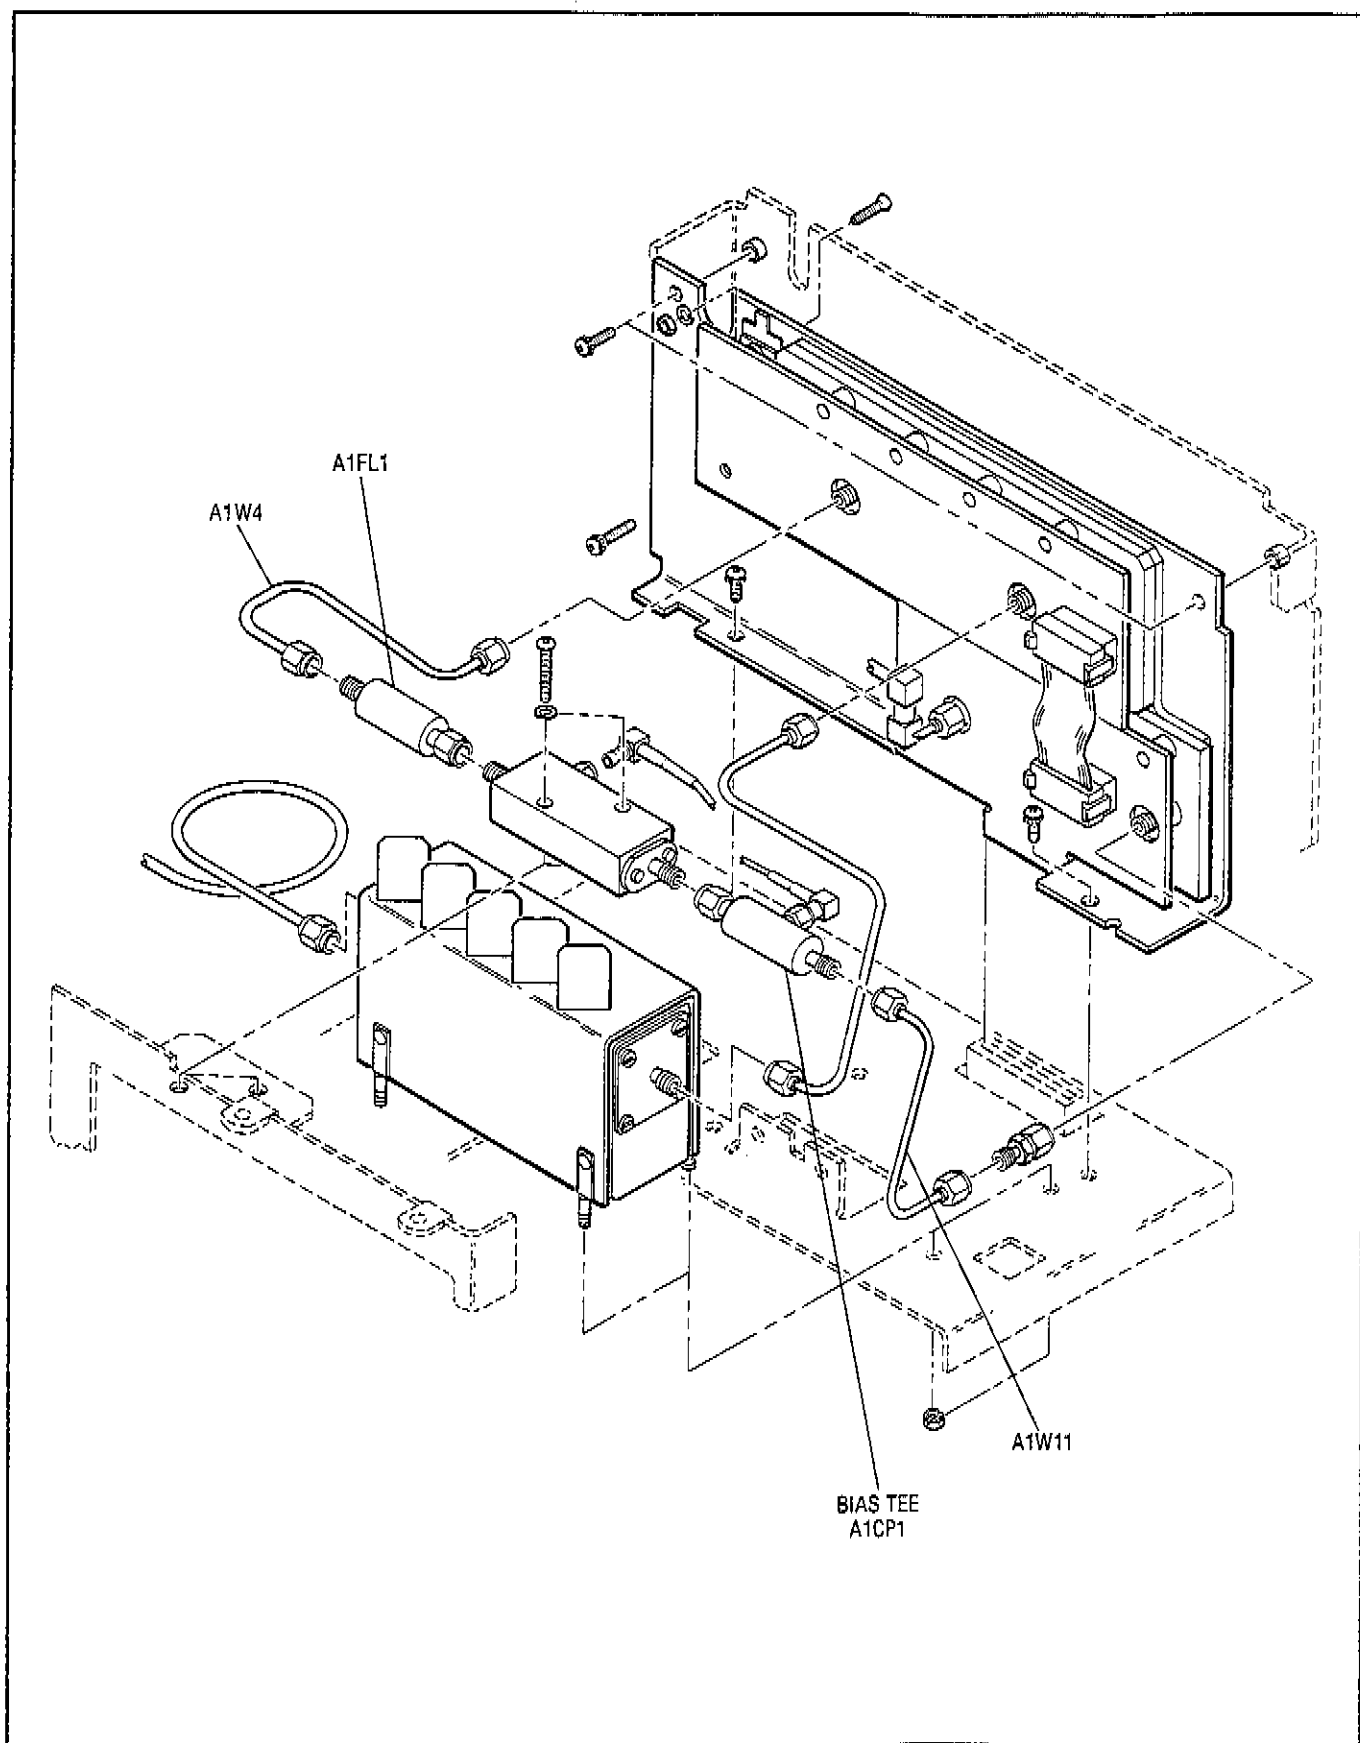

Figure 8-35. Pulse/YTM Driver Assembly Parts Location
1. Remove cable A1W4 from A1FL1 (See Figure 8-35).
5. To measure power at TPB, remove cable A1W11 from Bias Tee A1CP1, See Figure 8-35, (removal of the cable can be facilitated by first removing circuit boards A1A7 and A1A8).